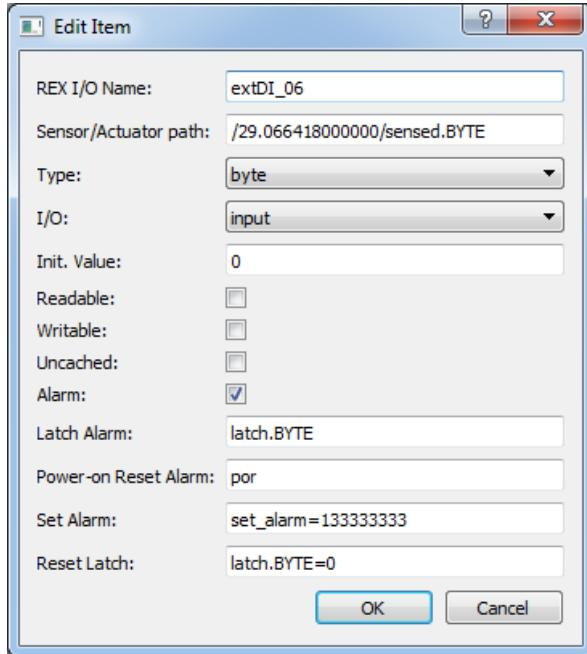

Figure 3.3: Example of configuration dialog for an alarm
Configuration of one alarm in the case of DS2408 circuit based 1-Wire device is shown in Fig. 3.3. The path to the signal (**Sensor/Actuator path**) is entered without starting directory `/alarm`. After selecting the **Alarm**, additional strings should be entered. The configured string values are preprocessed and stored to working string variables for each alarm (before start of the driver):
**ALARM\_SET\_WAIT** – Waiting for the completion of the writing started in the **ALARM\_SET** state. After that, all outputs are checked. When an output whose path starts with the **sPath** string is found, the initial value specified in the **Init**. **Value** item is written to the corresponding file (see fig. 3.3).